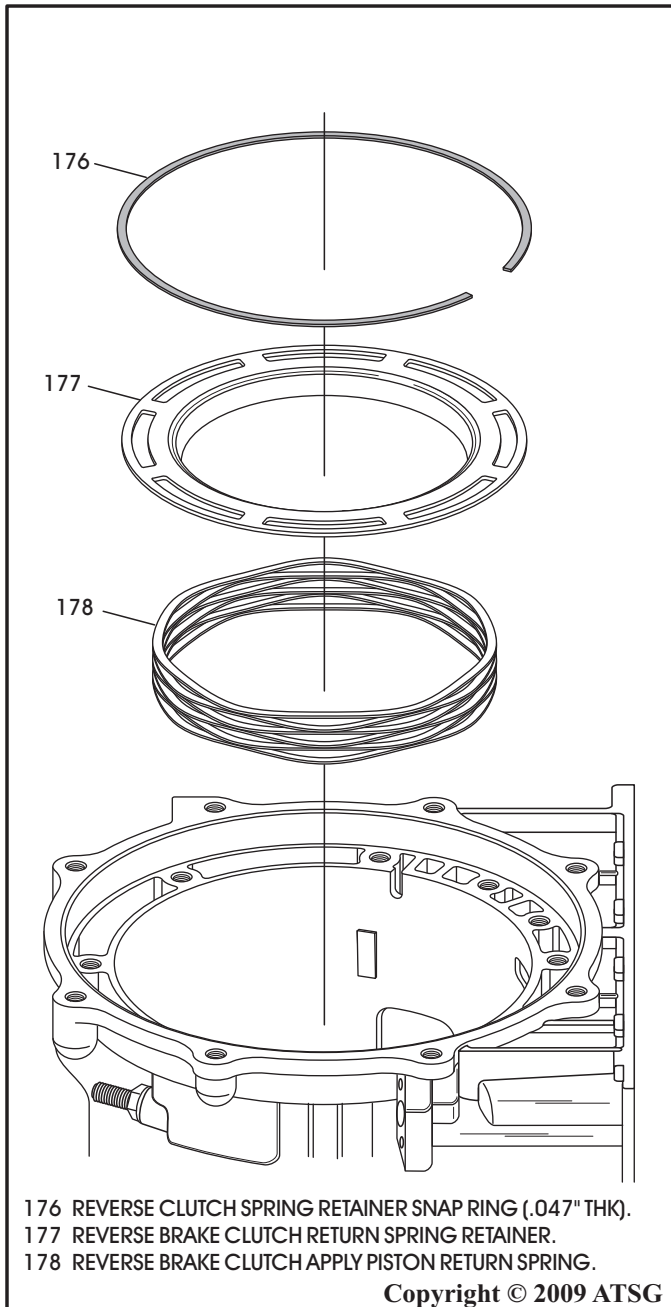

Figure 200
23. Install the reverse brake clutch piston return spring, as shown in Figure 200.
24. Install the reverse brake clutch return spring retainer, as shown in Figure 200.
26. Compress the spring and retainer using the wing nut and install the snap ring, as shown in Figure 200.